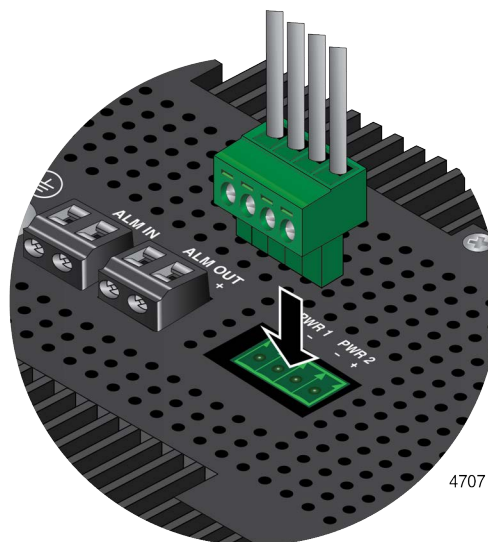

Figure 61. Connecting the Power Cable to the PWR 1 - PWR 2 Connector
2. Connect the power cable to the PWR 1 - PWR 2 connector on the top panel. Refer to Figure 61.